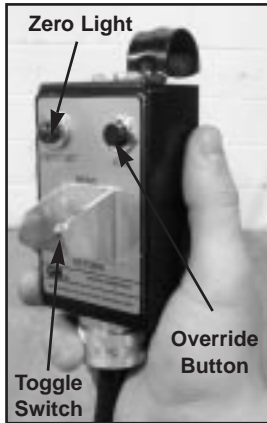

Figure 7. Pendant Control
3. Check the bending shoe to be sure the correct grooves for the conduit being bent are facing toward the operator. If the shoe must be rotated, hold the pendant control toggle switch in "Return" and press the override button until the zero light goes out. The shoe will rotate 180° then stop in the load position (Figure 7).